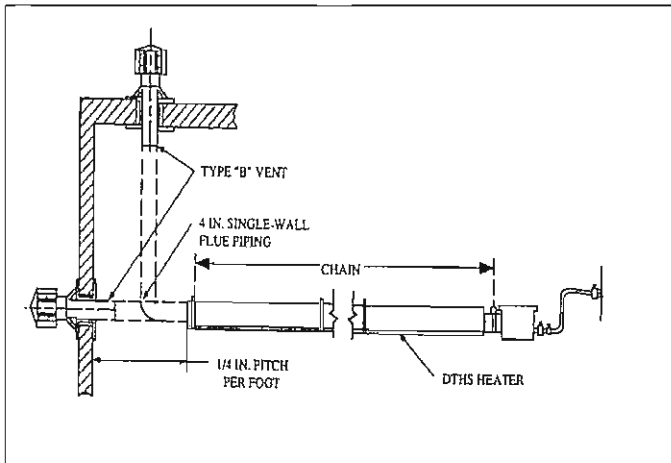

Figure 1-21
- All vent pipes must be sealed with high temperature sealant and (3) #8 sheet metal screws.
- Horizontal flues should be pitched down toward outlet, ¼ in. per foot of the vent length, to prevent rain from entering the heater (see Figure 1-21). **Do not pitch heater.**